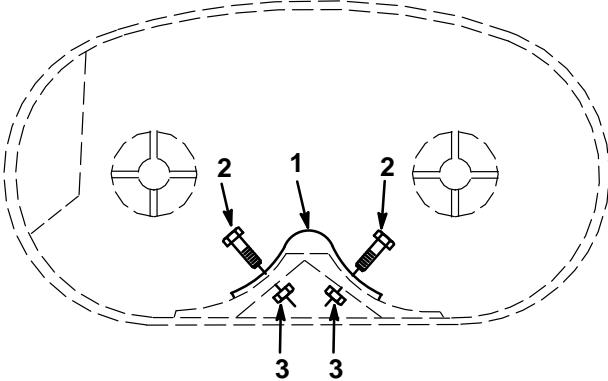

Figure 1
1. Center rear weldment as shown in (Fig. 1).